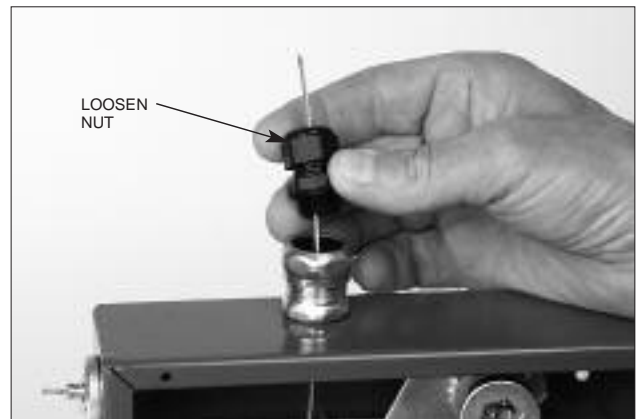

FIGURE 6
6. Loosen the nut on the strain relief and thread the wire rope through the strain relief. See Figure 6.